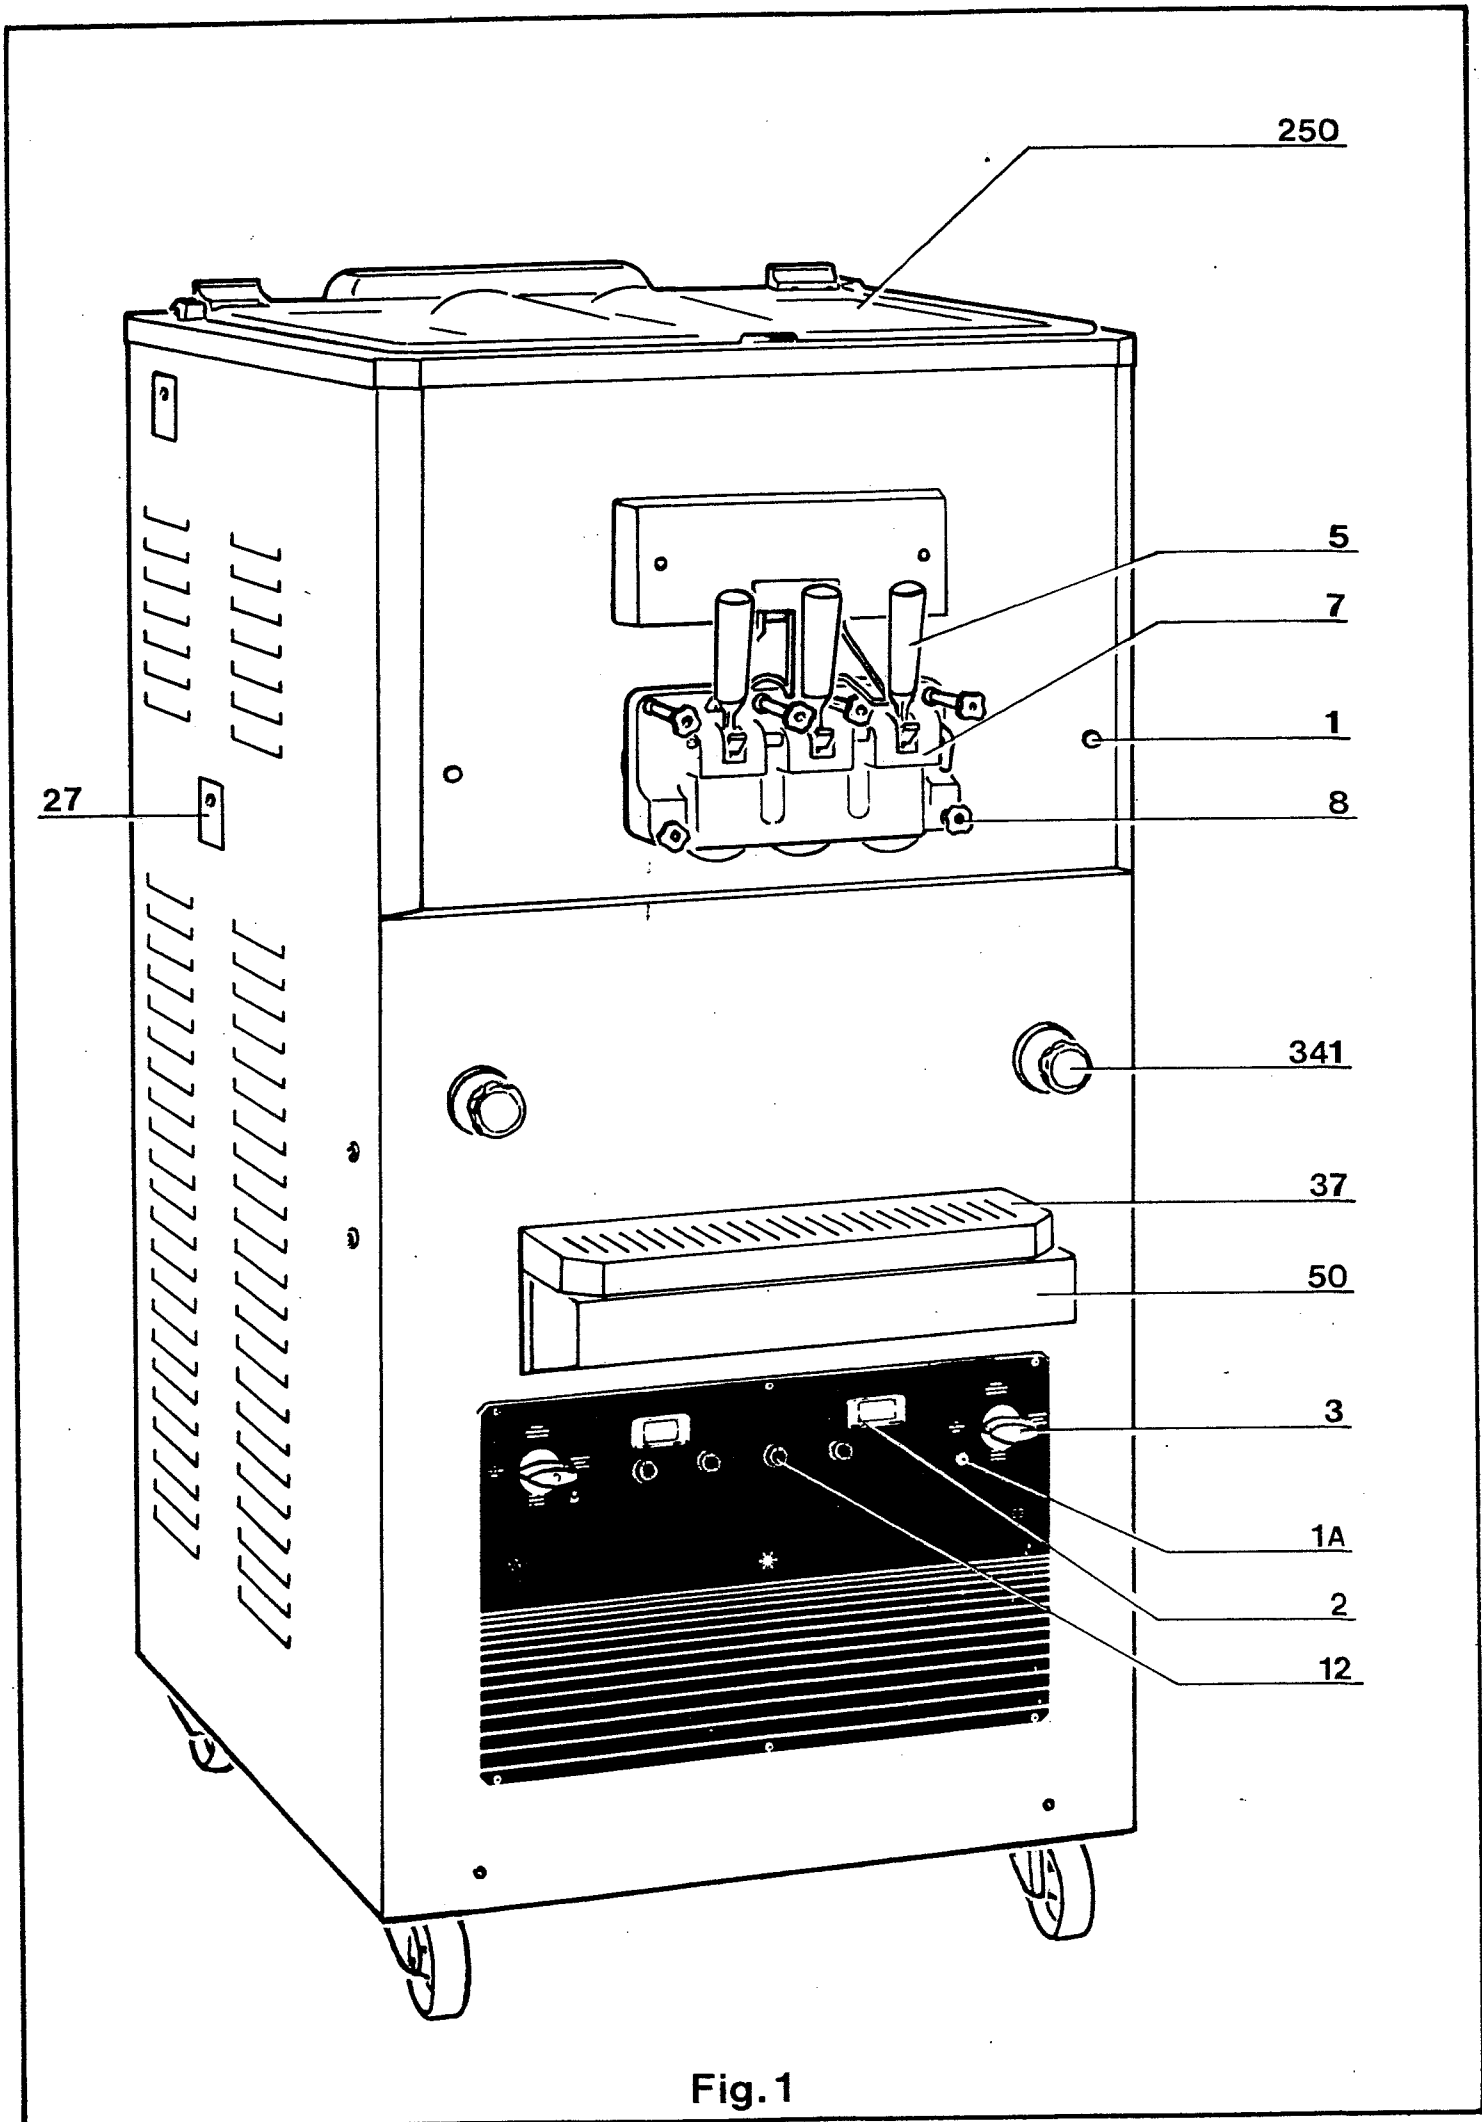

Fig. 1
Do not forget the machine in this position. The lights (fig. 1, ref. 1a) serve as a reminder.
Remove container (fig. 1, ref. 27). If this contains mix it means that the beater seals (ref. 28, TAV. V) are leaking.
Prolonged operation in " CLEAN OUT " position, warning lamp (fig. 1, ref. 1A) on, cylinder empty or full of water with cleaning and sterilizing solution, causes an early wear out of cylinders and pumps. Therefore, during cleaning and sterilizing operations let machine run only the time strictly necessary for such operations. No danger exists during ice cream sale because mix acts as lubricant.